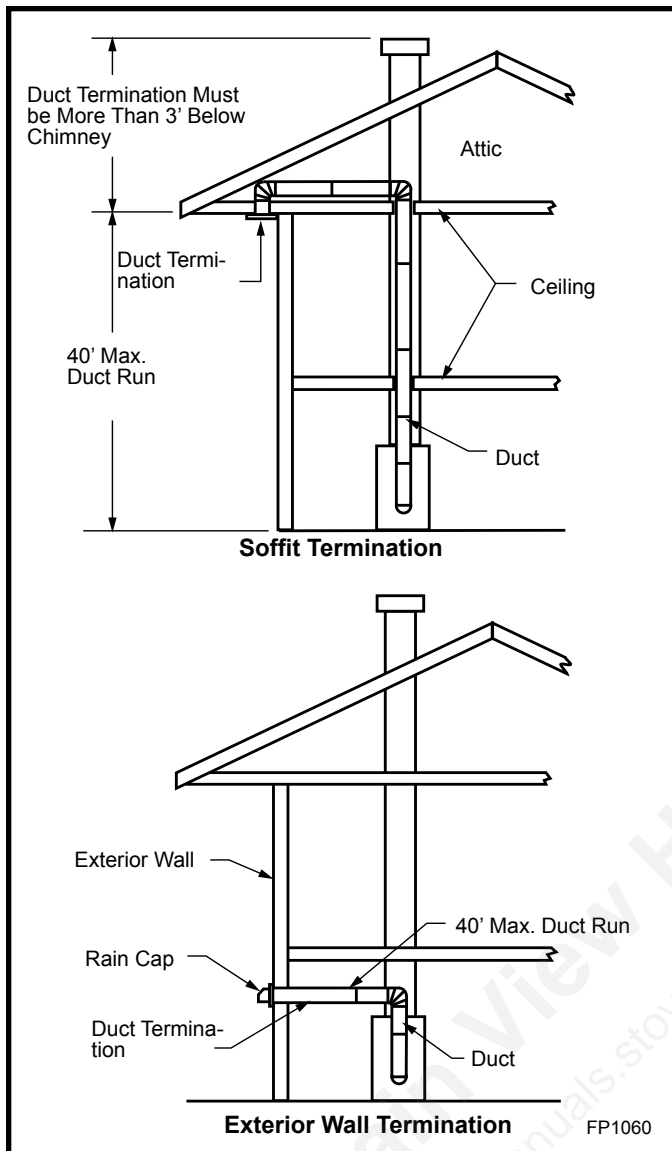

Fig. 15 Typical installations.
The duct run must be limited to a maximum distance of 40 feet (12 m) from the fireplace pipe collar to duct termination. This will provide the least restriction to air flow. No more than four (4) 90° elbows may be used. The duct run may be horizontal, vertical, inclined or any combination of these. Vertical duct runs must be at least three (3) feet below the fireplace chimney flue exit. (Fig. 15) You are now ready to install the AK-MST Outside Air Kit.